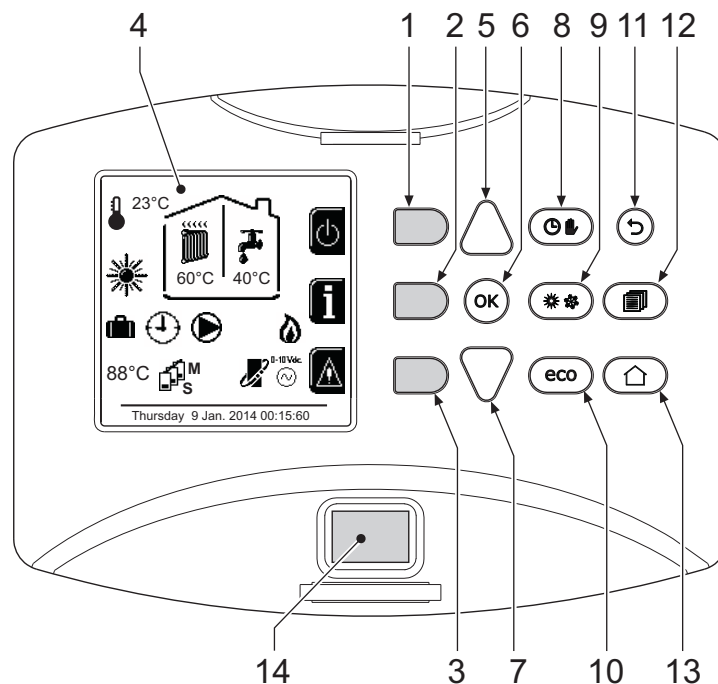

fig. 1 - Control panel
Hot water tank temperature maintaining/heating can be excluded by the user. If excluded, domestic hot water will not be delivered. The hot water tank can be deactivated by the user (ECO mode) by pressing the **eco/comfort** button (detail 10 - fig. 1). In ECO mode the display activates the symbol . To activate COMFORT mode, press the **eco/comfort** button (detail 10 - fig. 1) again.
From the main screen (Home), press the contextual button 2 (detail 2 - fig. 1). Then use the "Menu Navigation" buttons to display the following values:
Press the On/Off button (detail 14 - fig. 1).
To adjust the display contrast, press the **contextual button 2** and the **OK button together**. Then press the button ref. 5 of fig. 1 to increase the contrast or the button ref. 7 of fig. 1 to decrease it.